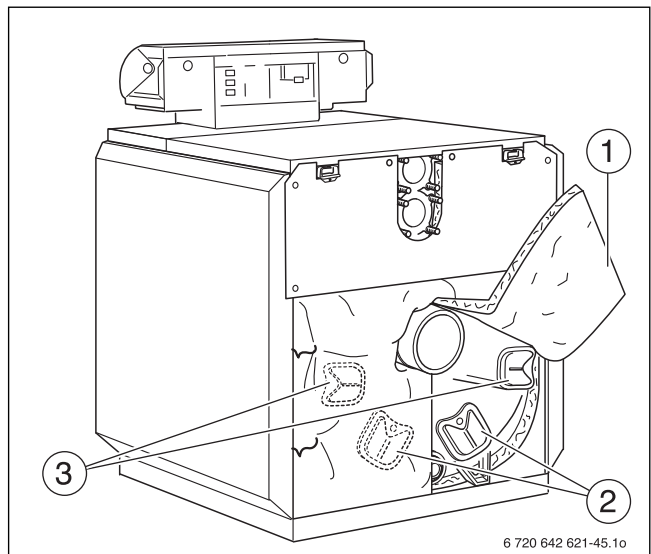

Fig. 64 Removing the cleanout cover
- ▶ Fold both ends of the thermal insulation up (Fig. 64, [1]) and fasten in this position with the spring hooks.
- ▶ Remove the cleanout covers from the rear section (Fig. 64, [2]) and on the draft diverter (Fig. 64, [3]).